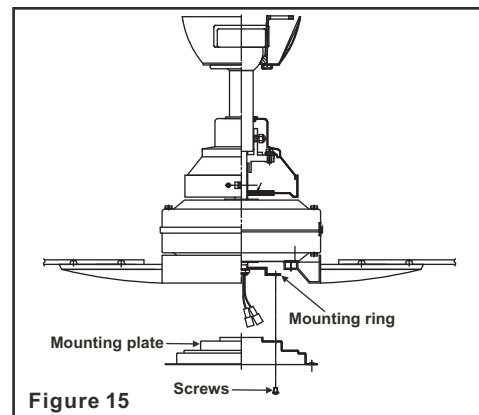

Figure 15
Step 2. Place the key holes on the mounting plate over the 2 screws previously loosened from the mounting ring, turn mounting plate until it locks in place at the narrow section of the key holes. Secure by tightening the 2 screws previously loosened and the one previously removed. (Fig. 15)